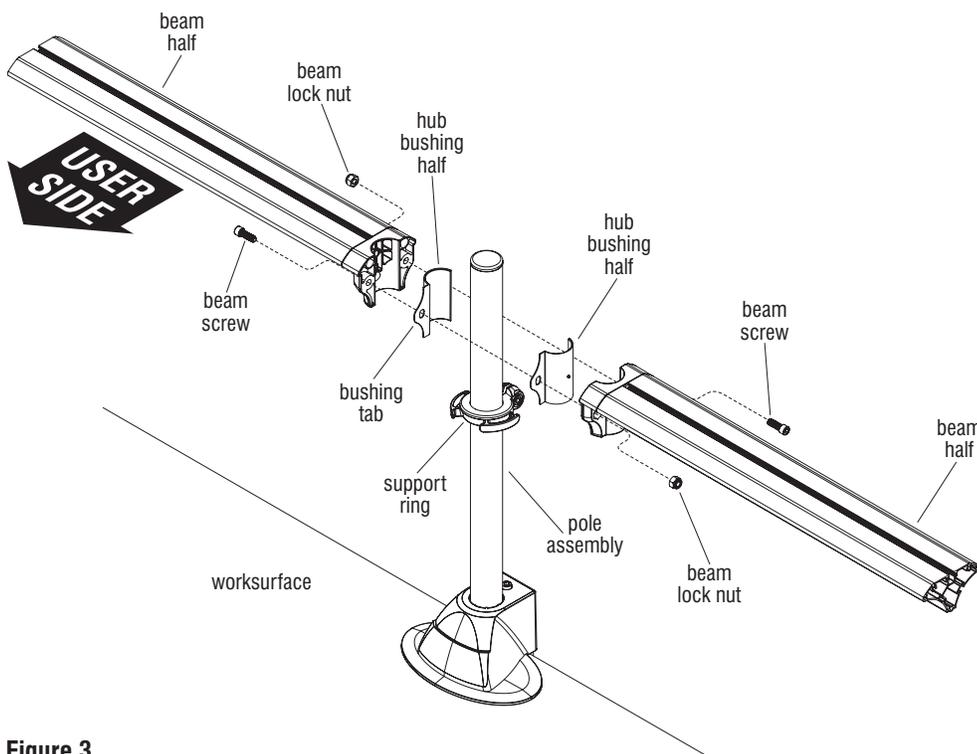

Figure 3
5. To install beam halves to the pole assembly, first position two hub bushing halves together above the installed support ring, with the bushing tabs facing the user side as illustrated. Next orient the two beam halves over the hub bushing halves, aligning the user side beam mount holes with the holes in the bushing tabs. Insert a beam screw through all aligned mounting holes at the user side and twist on a beam lock nut. Add a screw and beam lock nut at the rear, then tighten back screw and nut. Position the beam to the desired orientation on the support ring and tighten user side beam screw and lock washer to secure beam assembly in place (Figure 3).